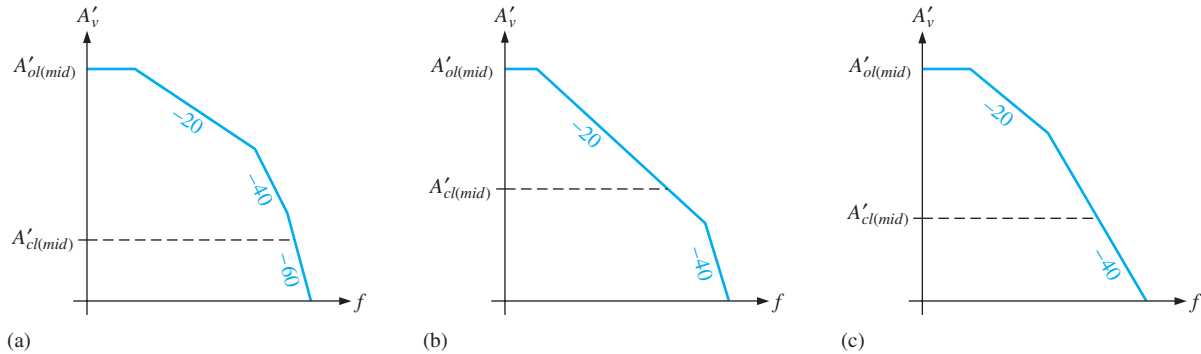

FIGURE 7-31
- 19. Each graph in Figure 7-31 shows both the open-loop and the closed-loop response of a particular op-amp configuration. Analyze each case for stability.